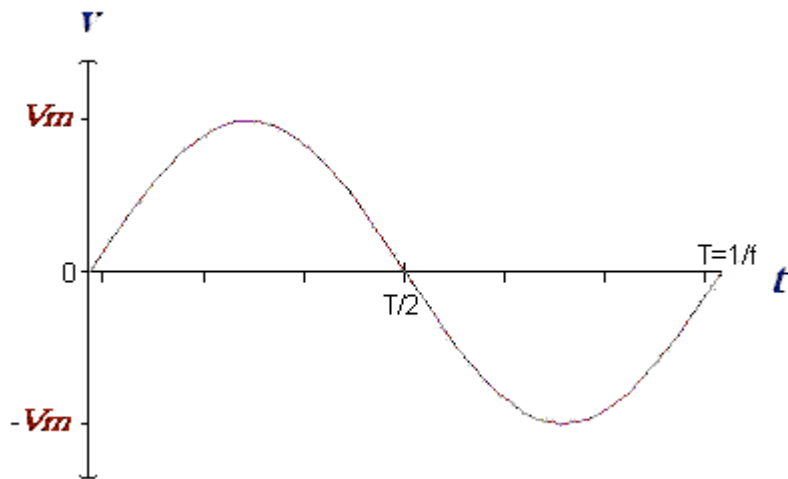

Figure 3. Sinusoidal Voltage
- E. The voltage being applied to the vertical deflection plates is $V_m \sin \omega t$, and in this case V_m is 4 volts. The angular frequency, ω , is equal to $2\pi f$, where $f = 0.5$ Hz. ω is measured in radians/second (rad/s). See Figure 3.
- F. Now back to the spot slowly going up and down. Try to visualize what would happen if, while the spot is moving as it is now, a voltage were applied to the horizontal deflection plates. The resulting display should look just like the graph of Figure 3. Such a display would represent the voltage applied to the
- G. Rotate the voltage adjust knob of the variable DC voltage supply at a uniform rate, and return it to zero. Do this several times, at various rates. Does the display look something like Figure 3?
- I. Increase the frequency to 100 Hz. Again rotate the voltage dial. Can you achieve a display similar to Figure 3? Why?